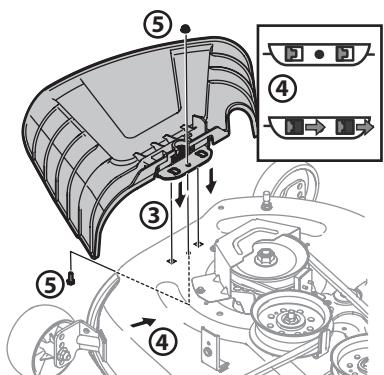

Figure 10
3. Place the chute deflector on the deck, be sure to insert the tabs on the chute deflector into the holes on the deck. See Figure 10.